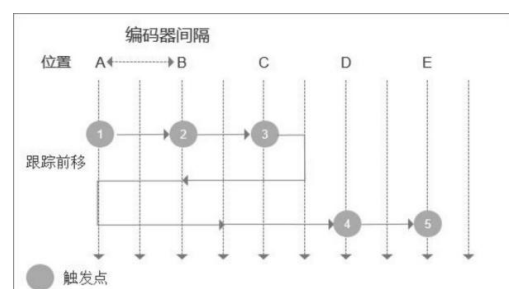

Figure 3.1.7 Tracking Advance
(3) **Forward Tracking:** Scanning is triggered when the target object moves forward. If the target object moves backward, the distance traveled forward must exceed the distance traveled backward (recorded as tracking) plus one encoder pitch to trigger the next scan. As shown in Figure 3.1.7.